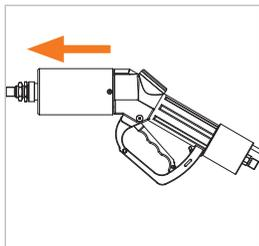

Figure 25
- ▶ Carefully pull the WEH® service receptacle straight out of the fueling nozzle (Figure 25).